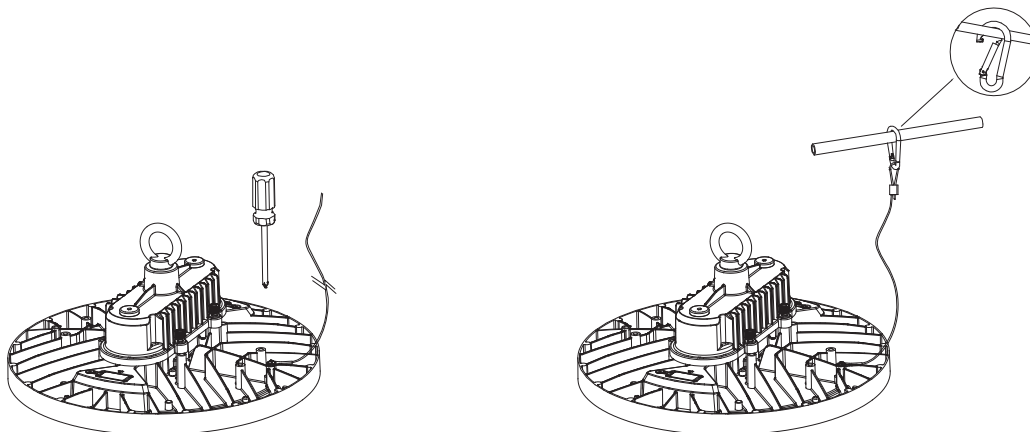

Figure 15
Step 1. Attach the safety rope on the lamp body with screws. (Figure 15)